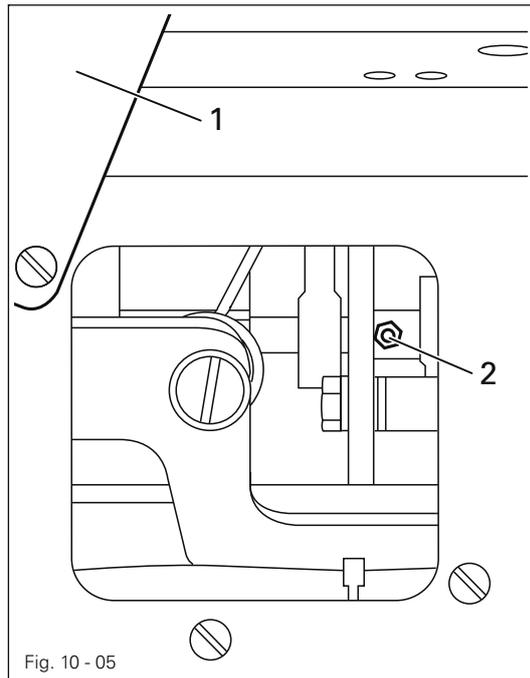

Fig. 10 - 05
- Lubricate all bearings and moving parts marked in Fig. 10 - 05 twice a week.